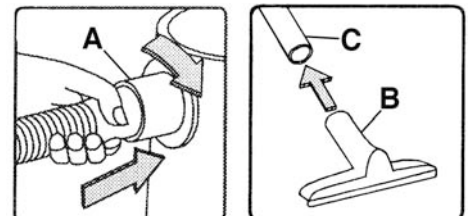

FIGURE 7
- 1) Thread the nut end of the hose (A) Fig.7 to the vacuum inlet (front of the vacuum) and tighten the hose by turning clockwise, do not overtighten.
- 3) Attach either the floor sweep (B) Fig.7 or the crevice tool to the other end of the extension wand assembly (C).